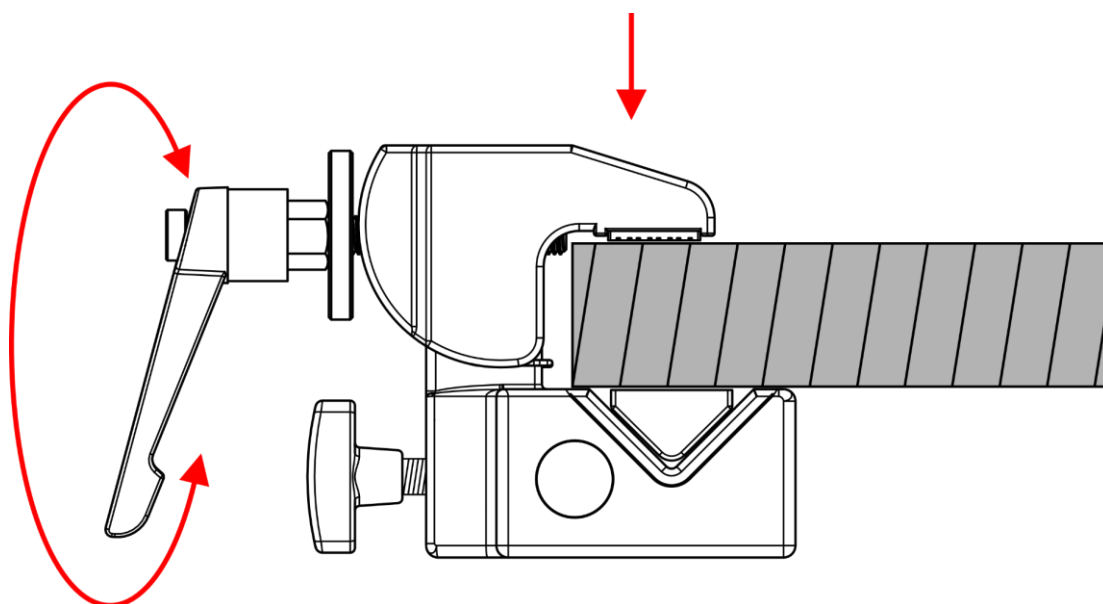

Fig. 07
- 04) Turn the **mounting screw (01)** counterclockwise, to loosen the device.
- 05) Attach a load to the mounting threads: **16 mm (5/8") hexagon socket (07)**, **M4 threads (08/09)** or the **M6 thread (10)**.
- 07) Turn the **mounting screw (01)** clockwise, to tighten fit the device firmly to the surface. See Fig. 07.